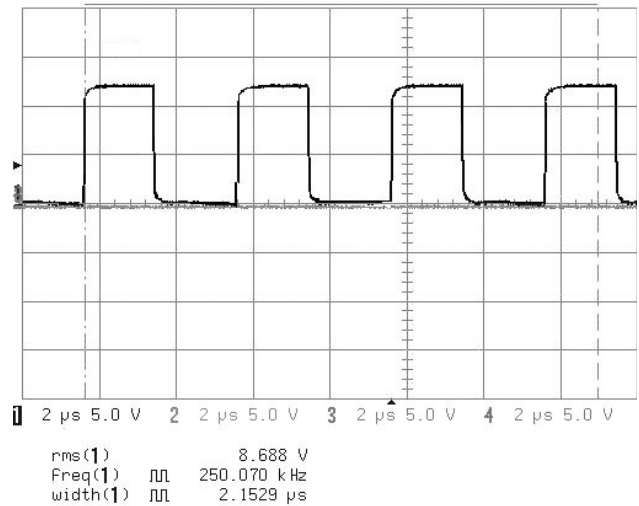
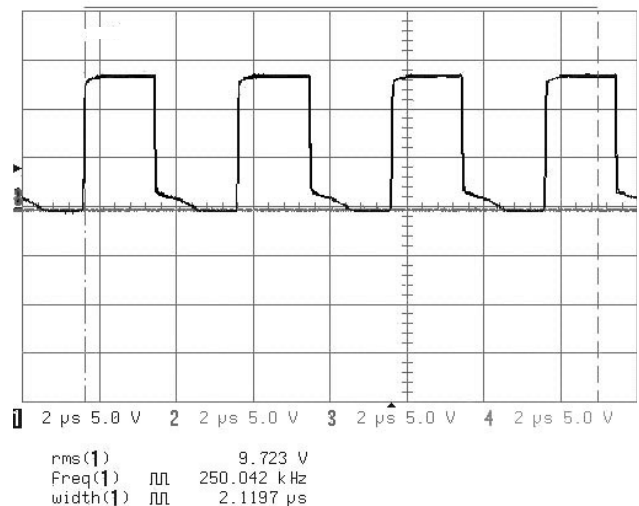

Figure 4.10 Gate Switching, View A
Figure 4.11 Gate Switching, View B
3. Using an oscilloscope check BCA output stage gate switching (see Figure 4.10). Probe at each gate drive resistor.
R360 for Q107 and Q110 (Figure 4.10) while R357 for Q108 and Q111 (Figure 4.11) of Vp Channel 1.
R365 for Q108 and Q112 (Figure 4.10) while R368 for Q109 and Q113 (Figure 4.11) of Vn Channel 1.
R460 for Q207 and Q210 (Figure 4.10) while R457 for Q208 and Q211 (Figure 4.11) of Vp Channel 2.
R465 for Q208 and Q212 (Figure 4.10) while R468 for Q209 and Q213 (Figure 4.11) of Vn Channel 2.